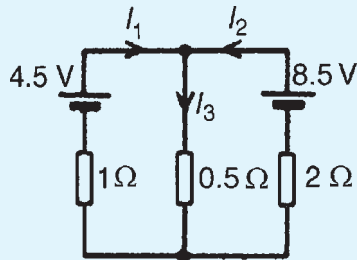

Figure 13.25
- 1. Use the superposition theorem to find currents I_1 , I_2 and I_3 of Fig. 13.25. [$I_1 = 2 \text{ A}$, $I_2 = 3 \text{ A}$, $I_3 = 5 \text{ A}$]